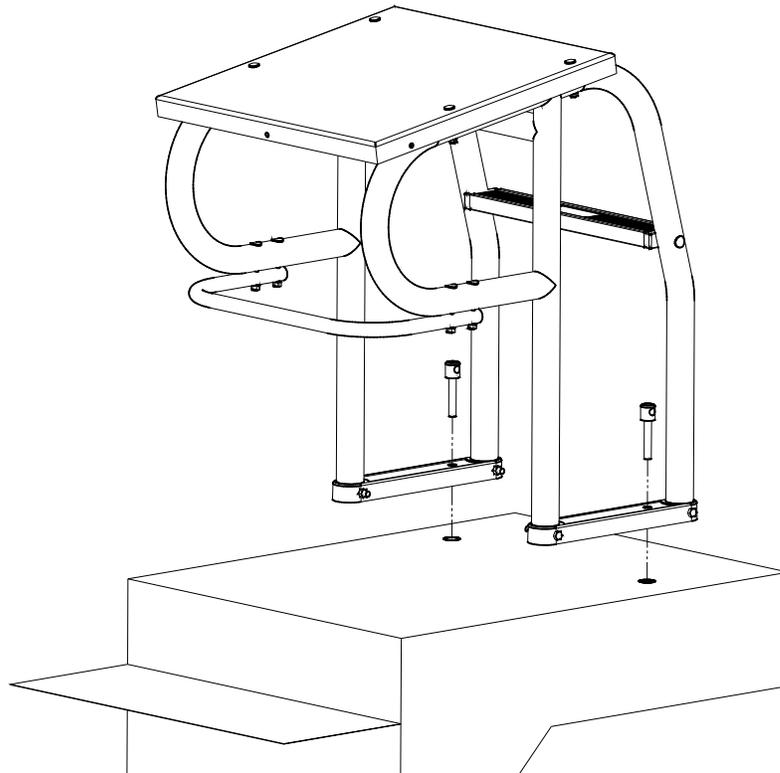

FIGURE 9
8. Installation and removal as shown below in **FIGURE 9**.